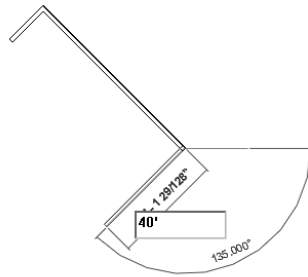

Figure 3-41 Sketching the third inclined wall segment
6. Similarly, for creating the next wall, move the cursor downward to the left and choose the perpendicular snap override as in step 5. Enter **40'** as length, as shown in Figure 3-41. Now, press ENTER to create the third inclined wall.